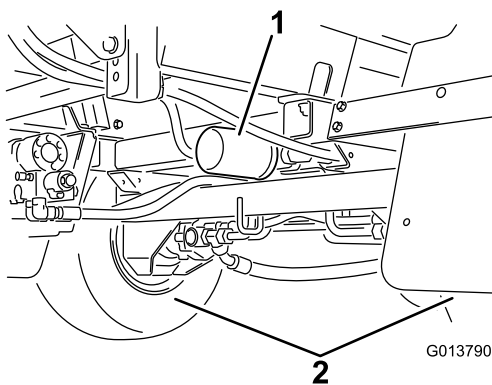

Figure 143
2. Locate the 2 hydraulic filters on the machine (Figure 142 and Figure 143).